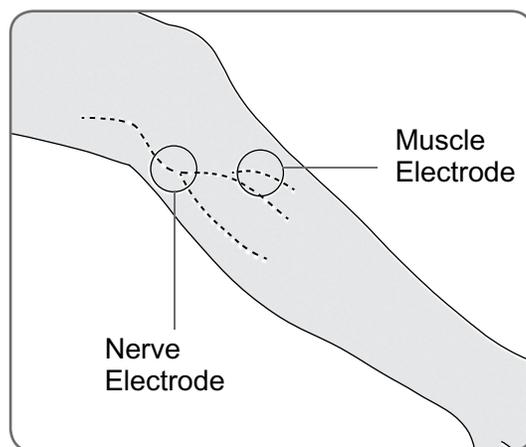

Figure 10-2: Positioning the electrodes on the leg.
8. Position one electrode (the nerve electrode) over the common peroneal nerve, distal and slightly posterior to the fibular head. See Figure 10-2.
7. Position one electrode (the nerve electrode) over the common peroneal nerve, distal and slightly posterior to the fibular head. See Figure 10-2.